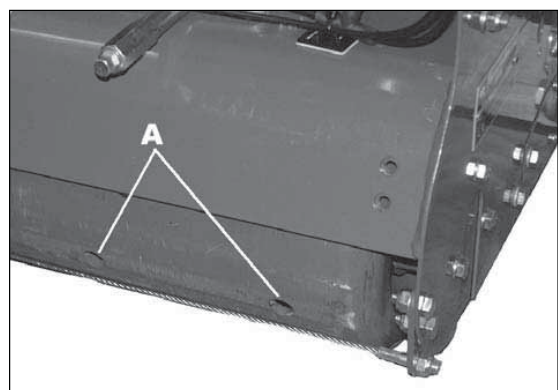

Fig 11.4c
- Landroll [A] (Fig. 11.4c) - Marquis and Super Bowl Machines Only